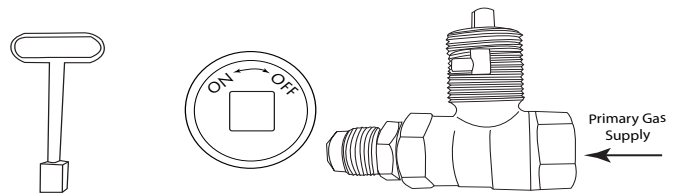

Fig. 19 Key valve components
The key valve contents: (1) key valve, (1) 12-inch key and (1) flange. See Fig. 19. The valve requires a $\frac{1}{4}$ " round clearance hole in the non-combustible enclosure wall. See the instructions supplied with the key valve for more specific details. **Note:** Be sure to leak test all fittings before operating.